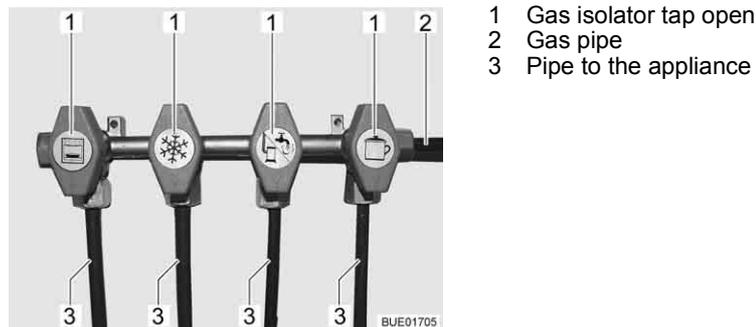

Fig. 148 Gas shut-off valves position (example)
- Position the gas isolator tap of the corresponding gas device parallel (Fig. 148,1) to the pipe (Fig. 148,3) leading to the device.